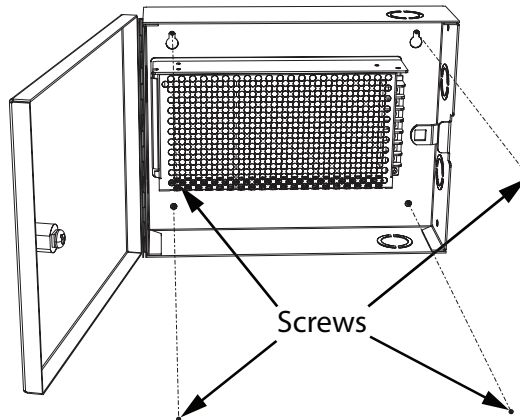

Figure 7: Power Supply Enclosure
2. Using the power supply enclosure as a template, mark the back mounting hole locations as indicated in Figure 7. Ensure that at least one side is over a wall stud.